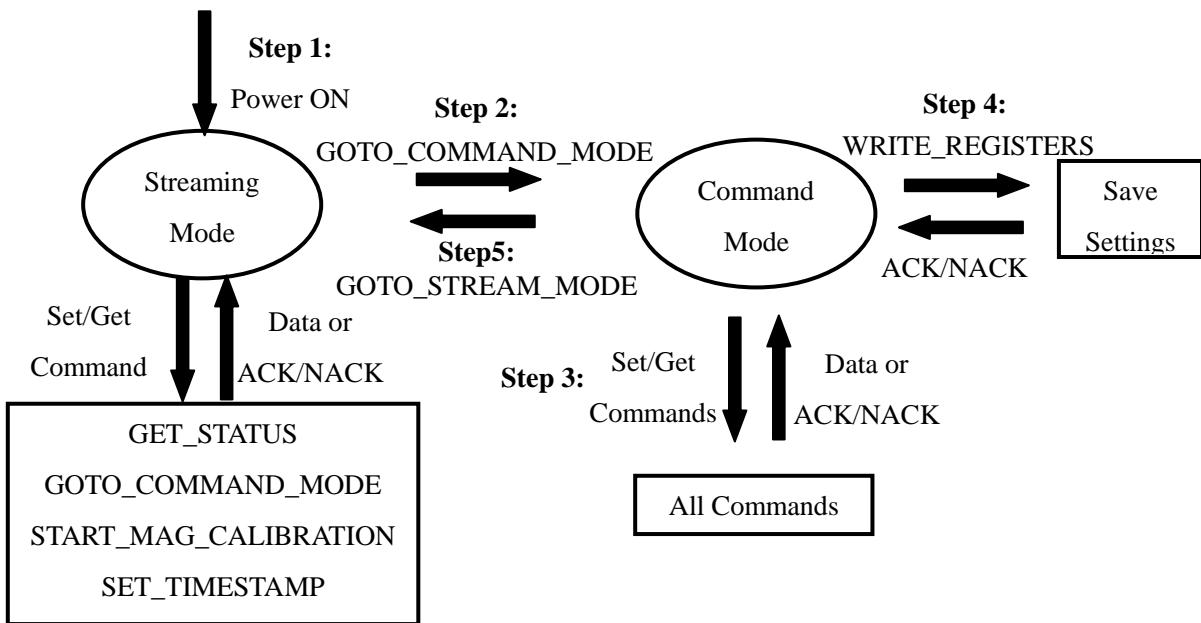

Figure 6.1. Flowchart of sensor parameters setting
Figure 6.1 shows the flowchart for changing the parameters of LPMS devices.
- Only 4 commands are executable in streaming mode, see **Figure 6.1**.
- Command **WRITE\_REGISTERS** must be executed after changing sensor parameters, or all changes fail to set up after power down, see **Step 4 in Figure 6.1**.